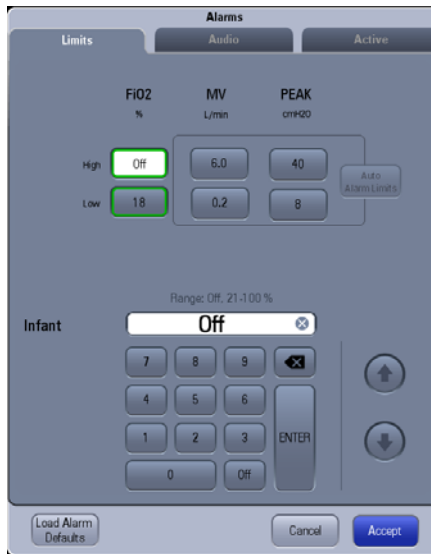
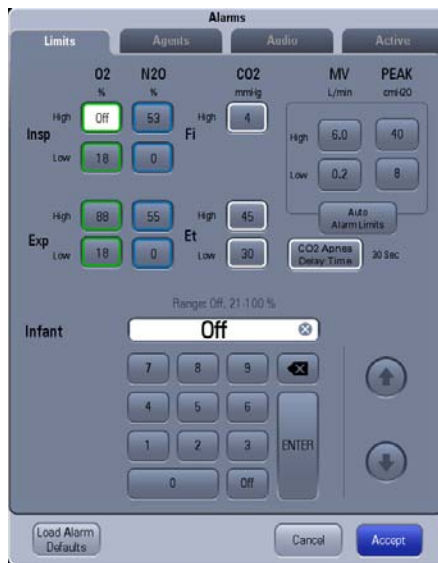

FIGURE 6-6 Limits tab in the Alarms Window (without AG module connected)
FIGURE 6-7 Limits tab in the Alarms Window (with AG module connected)
2. Select the **Limits** tab or **Agents** tab. (see FIGURE 6-6 and FIGURE 6-7.)
2. Select the **Limits** tab. (see FIGURE 6-6)